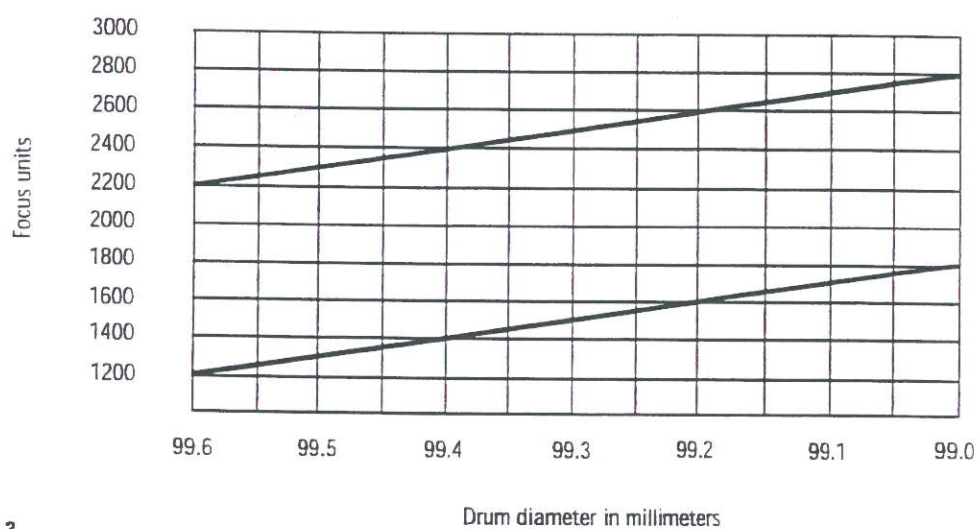

Fig. 3
- 22 • Check that these values are within the tolerances of the graph (fig. 3) by reading the diameter on the drum flange.